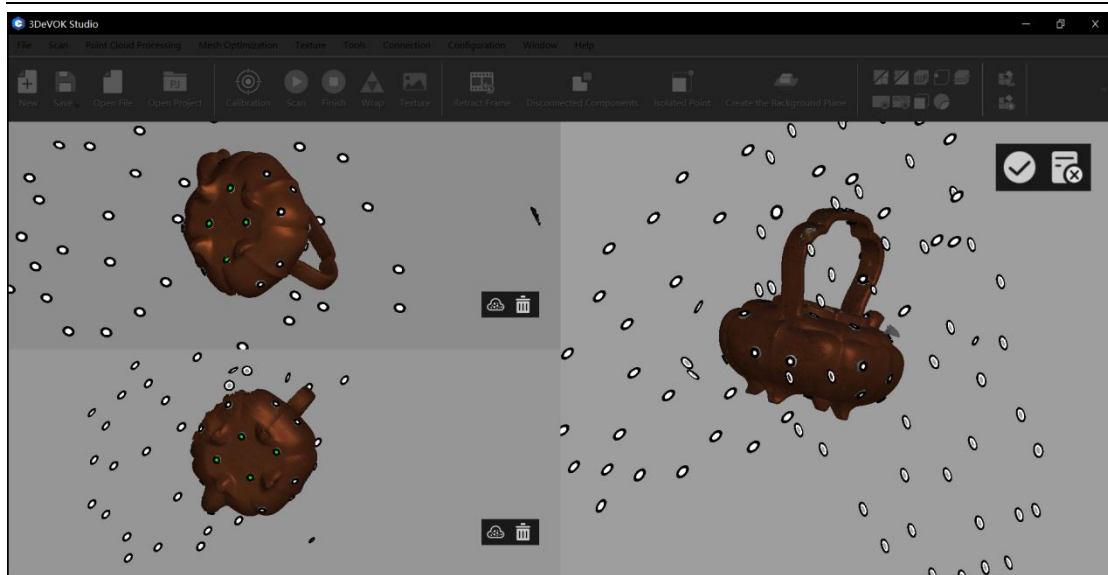

Figure 9-7 Select Common Markers
4. Left click to select at least four pairs of common markers with lasso, which is shown in Figure 9-7;